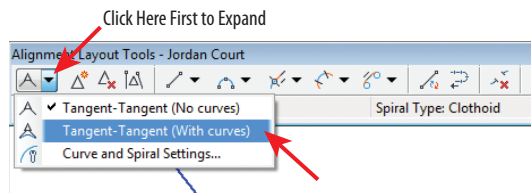

FIGURE 5.3 Selecting the Tangent-Tangent (With Curves) command
5. On the **Alignment Creation Tools** toolbar, click the black triangle on the first button on the left to expand it downward (see Figure 5.3). Then click **Tangent-Tangent (With Curves)**.